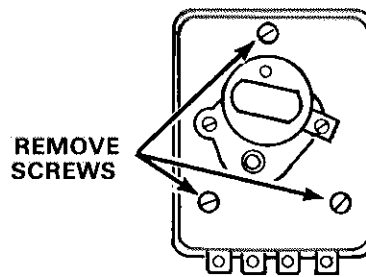

FIGURE 2
- 3 - Remove mounting screws and timer cover as shown in figure 2.